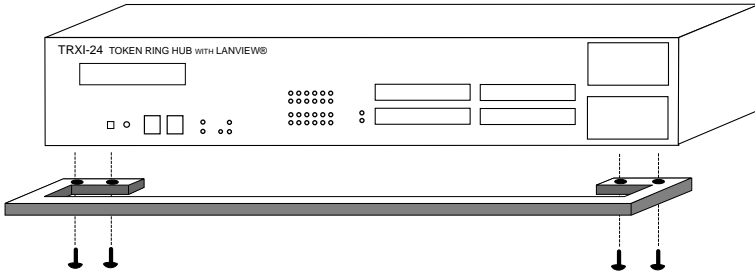

Figure 3-1. Attaching the Strain Relief
2. Attach the strain relief bracket to the bottom of the TRXI as shown in Figure 3-1.